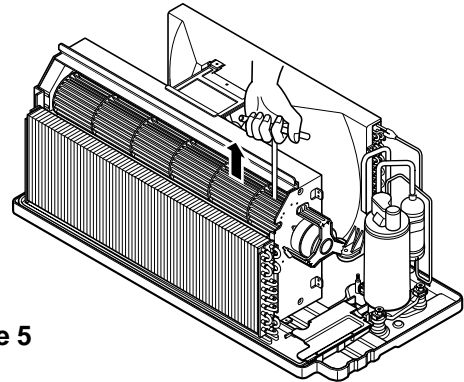

Figure 5
(See Fig.5)
6. Remove the 4 screws which fasten the indoor motor and the earth wire. (See Fig. 5. 6)